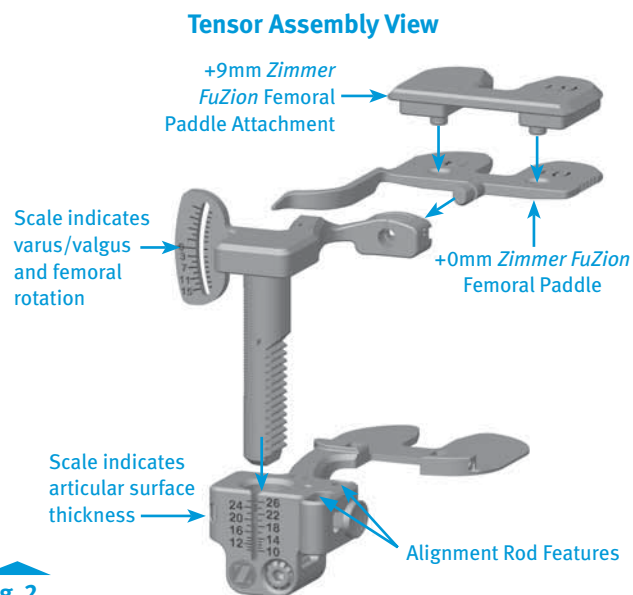

Fig. 2
- Remove all the osteophytes and complete the initial ligament balancing. Place the leg in extension. Assemble the Zimmer FuZion Tensor with the +9mm Paddle (Fig. 2). Insert the Zimmer FuZion Tensor into the extension gap.
Note: Use the +0mm Zimmer FuZion Femoral Paddle to evaluate the joint space prior to resection. Attach the +9mm Zimmer FuZion Femoral Paddle to the +0mm Zimmer FuZion Femoral Paddle (attachment is magnetic) to evaluate the joint space after the femoral condyles have been resected (Fig. 2).